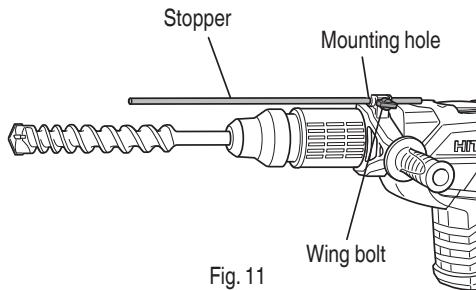

Fig. 11
5. Install the stopper (Fig. 11)